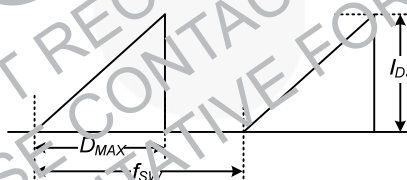

Figure 4 Repetitive Peak Switching Current
6. Repetitive peak switching current when inductive load is assumed: Limited by maximum duty ($D_{MAX}=0.73$) and junction temperature (see Figure 4).